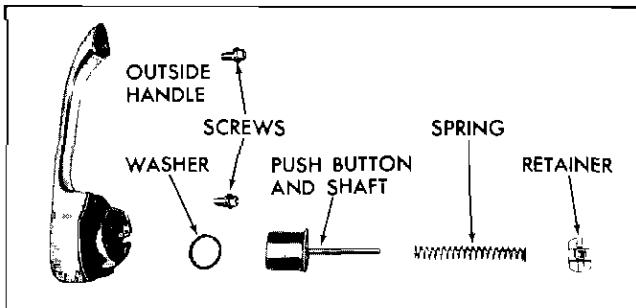

Fig. 2-16 Front Door Outside Handle
2. Depress retainer slightly and turn retainer one quarter turn. Remove retainer, spring and push button and shaft from handle (Fig. 2-16).